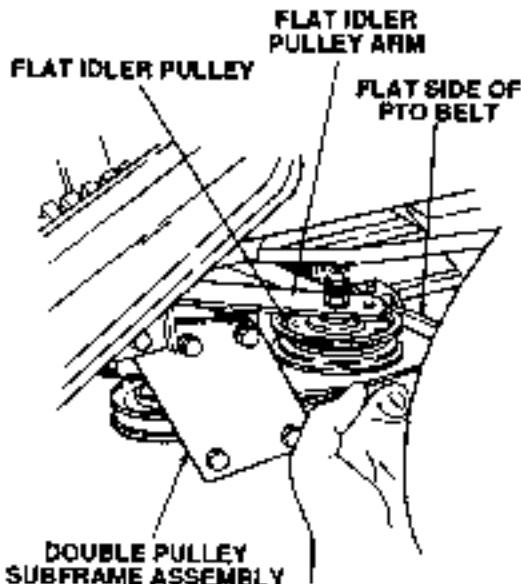

Figure 7-38. Position Flat Idler Pulley.
- From behind the front/right tire, pull the flat idler pulley toward you and position the PTO belt inside the flat idler pulley. Refer to Figure 7-38.